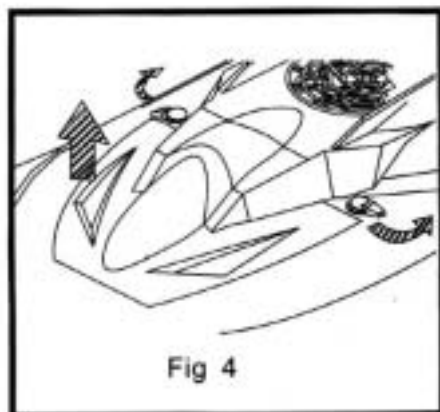

Fig 4
1. Turn red LATCHES on vehicle BATTERY DOOR, lift door up at rear and remove. (Figs. 4)